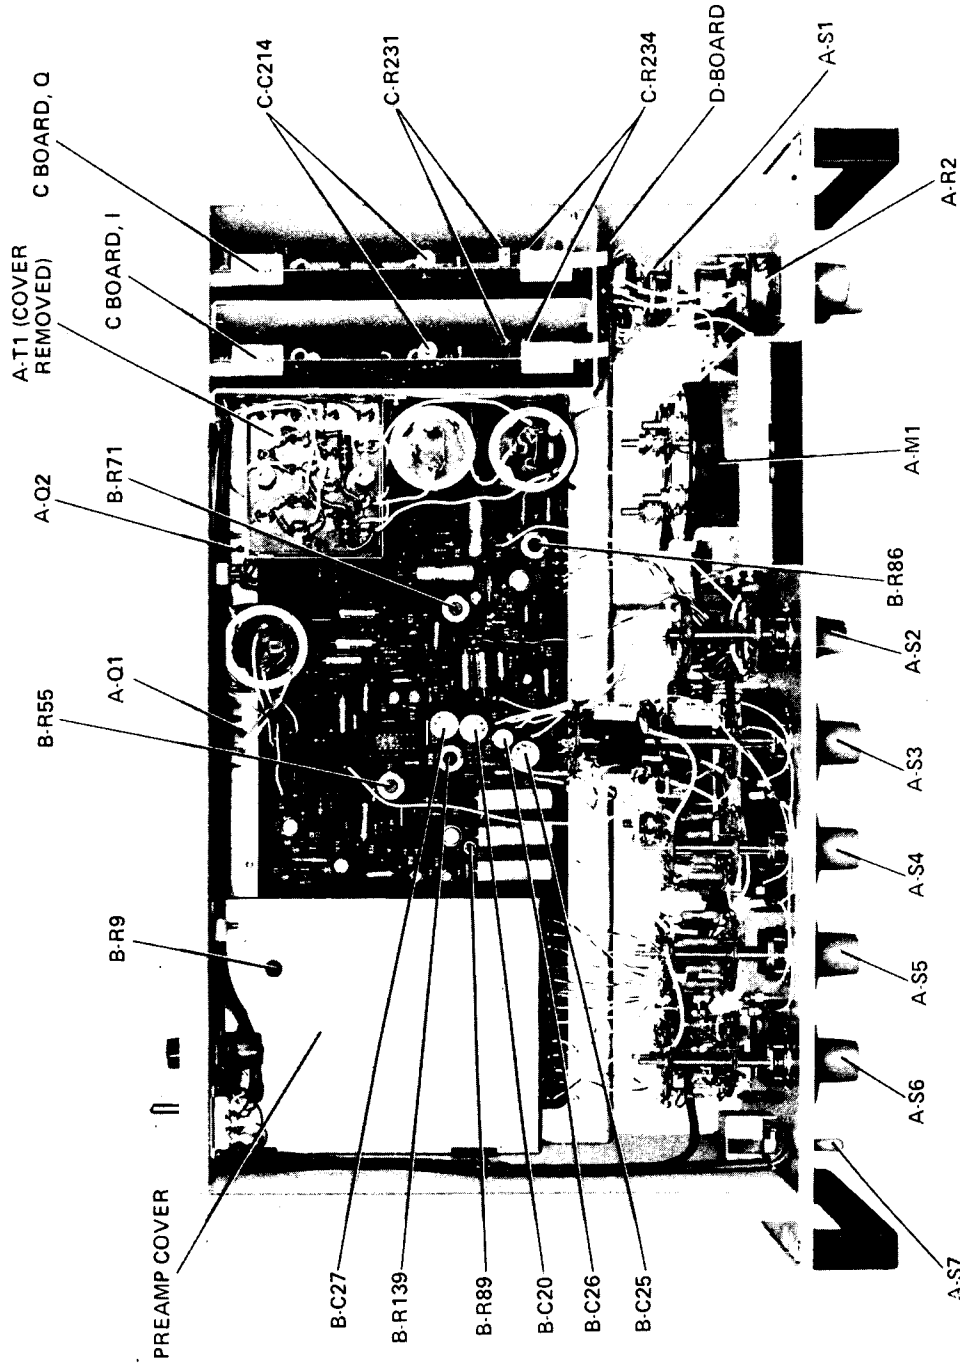
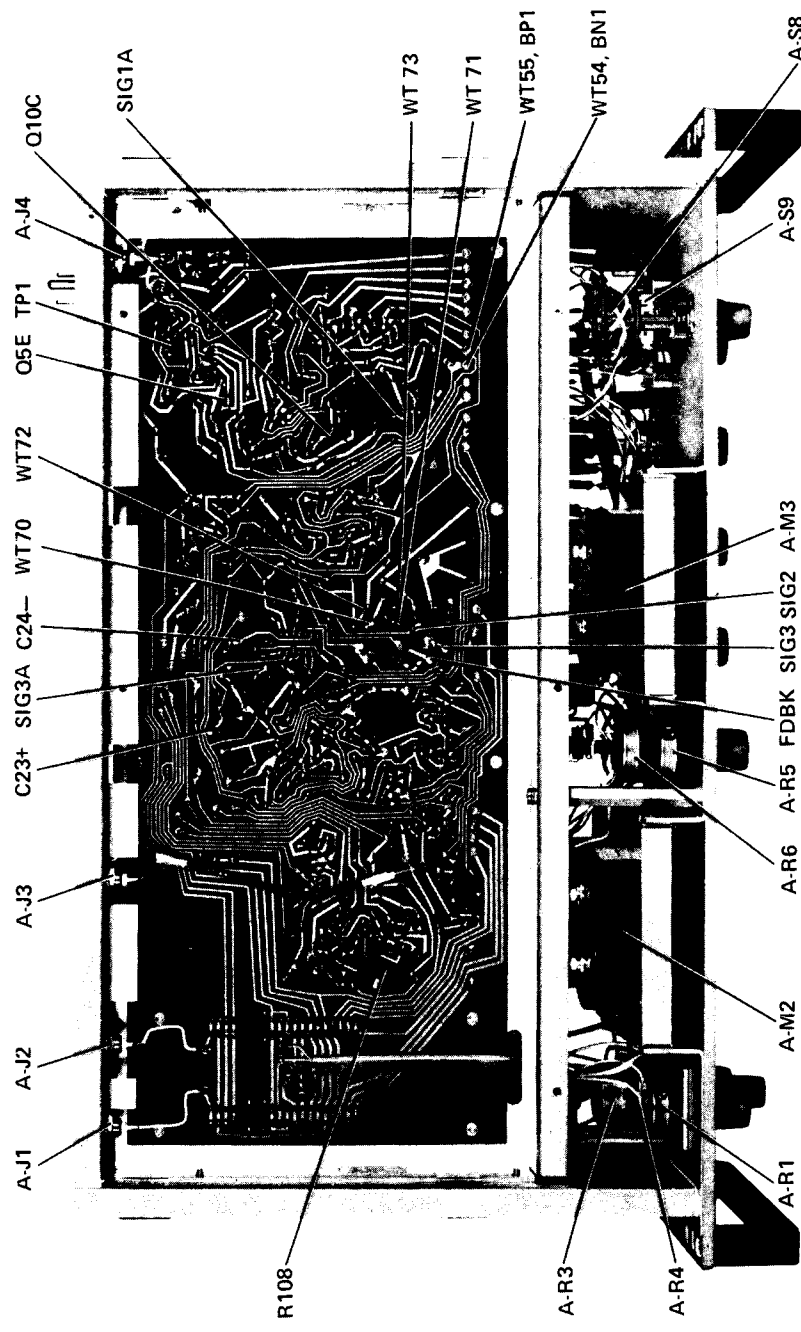

Figure 5-2. Interior, top view.
Figure 5-3. Interior, bottom view, shield cover removed. Designators not starting with A- have a B- prefix assumed.
The bottom cover, extending under two thirds of the instrument, can be removed for access to the mother-board circuitry. Remove 6 screws along the front and rear edges of the cover, *not* the other 4 screws (which hold transverse shields). The cover is off in Figure 5-3.
Lift out the preamplifier shield (in the left rear corner, Figure 5-2), if necessary, after removing 5 screws. One screw shows clearly in the figure, 2 others are at the rear, and 2 at the side of the instrument.
5.4 OUTLINE OF ADJUSTMENTS. Figures 5-2, 5-3.
This paragraph lists adjustments in alphanumeric order, giving their purposes. Instructions for setting most of these are given in para. 5-5. You can locate all adjustments but one, by reference to Figure 5-2; B-R108 is in Figure 5-3.
Set the main negative supply voltage to -15.0 V dc with B-R108. Do so with a voltmeter connected from chassis ground (GS3) to the case of A-Q2 (WT35) on the rear panel. A-Q2 is farther from the fuse than A-Q1 (Figure 5-2).
Set the voltage at TP1 to 150 mV for FET's with 4 leads. 750 mV for FET's with 3 leads with B-R9. Use an ungrounded voltmeter connected from the shell of A-J4 (WT2) to TP1 (Figure 5-3).
a. Cut the unwanted wire jumper and put another one in, as follows: 50 Hz, connect WT72 to WT73 (60 Hz, connect WT70 to WT71). See Figure 5-3. Heat the joints moderately, when soldering, to avoid damaging the etched-board foil.
Preamp DC- (BN1). At WT54 (Figure 5-3), reference: GS1 (shell of INPUT SIGNAL jack A-J4); -15 ± 0.8 V.
Preamp DC+ (BP1). At WT55 (Figure 5-3), reference: GS1; $+15 \pm 0.8$ V.
Negative 12. At B-C24 negative (Figure 5-3), reference: chassis; -12 ± 0.6 V.
Positive 12. At B-C23 positive (Figure 5-3) reference: chassis; $+12 \pm 0.6$ V.
For further analysis, check signal levels and waveforms at intermediate points corresponding to the junctions of the 5 sections. These points are identified in Figure 5-3 as follows: Q5E, Q10C, SIG1A, and SIG3A.
If the section containing integrated circuit B-U4 is faulty, check whether gain is normal as follows: SIG2 to SIG3A, 30 dB (tuned); SIG2 to FDBK, 40 dB (tuned). Measurement points are shown in Figure 5-3. If necessary disconnect the wire carrying SIG3 to B-WT16 from the frequency range switch A-S3. Then the gain (K) from SIG3 to FDBK should be 15.5 dB.